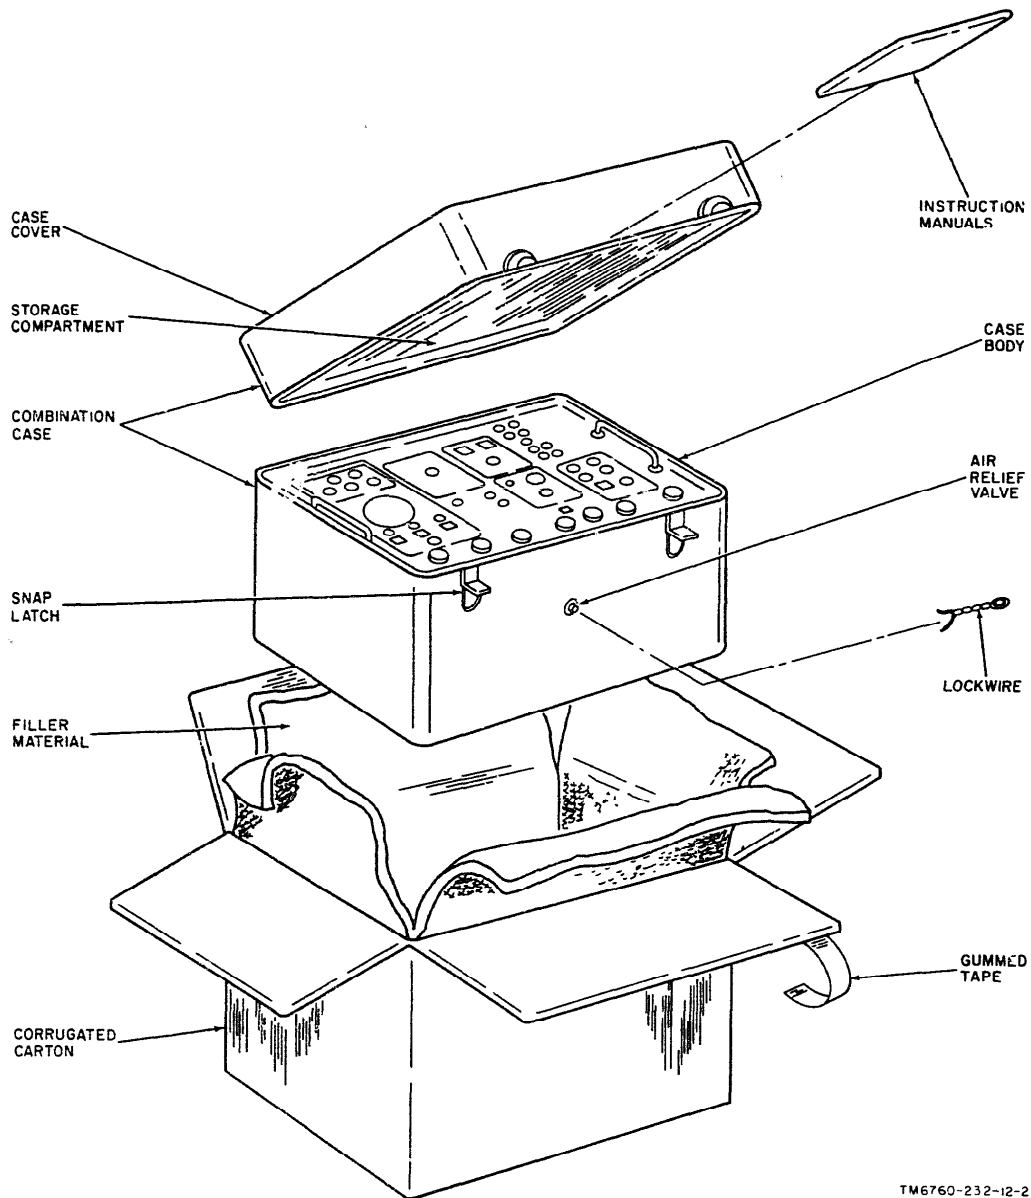

Figure 2-1. Typical packaging of test panel or blower assembly of bench test set.
(fig. 2-1)
a. Packaging Data. When packed for shipment, the units of the bench test set are packaged in three corrugated shipping cartons. A typical shipping carton and its contents are shown in figure 2-1. The contents, dimensions, volume, and weights of the shipping cartons are: